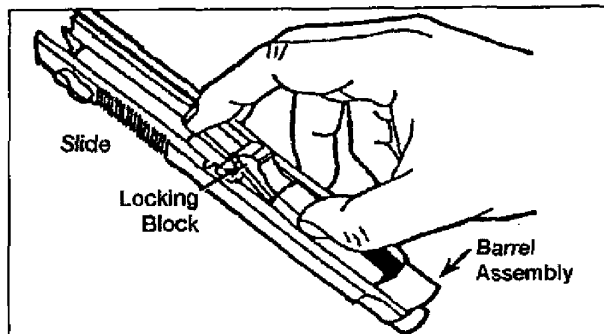

Figure 071-004-0001-5. Insertion of the barrel assembly
- a. Grasp the slide with the bottom facing up (figure 071-004-0001-5).